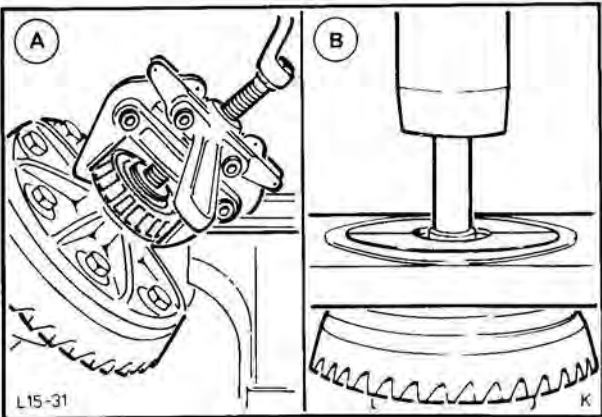

Fig. 90. Remove differential housing taper roller bearing using special tool 15-026A
42. Remove differential housing taper roller bearing, Fig. 90. Place removal tool on one of differential housing bearings and clamp in vice by one leg. Remove both bearings in this way, one after the other.